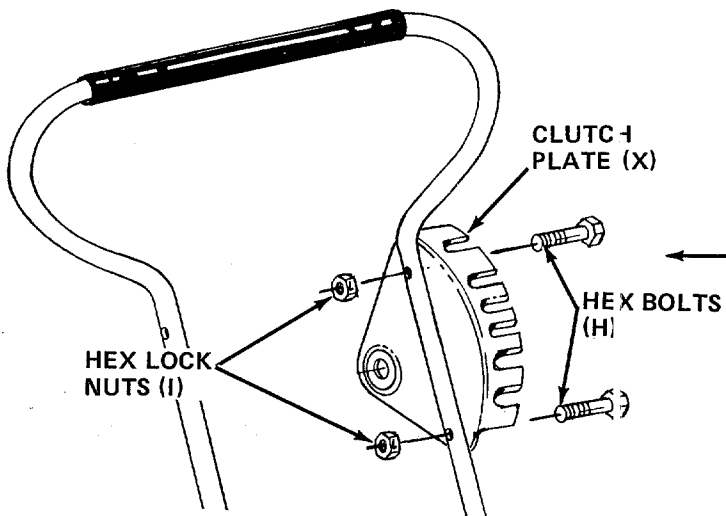

FIGURE 6
- Place clutch plate (X) on the left hand side of the upper handle as shown in figure 6. Secure in place with hex bolts (H) and hex lock nuts (I).